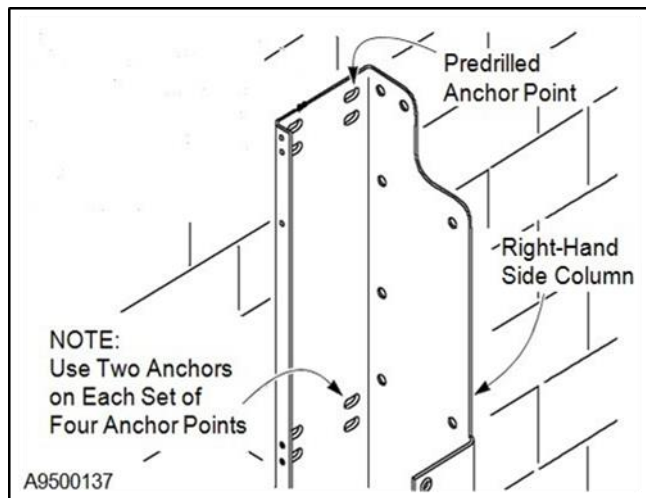
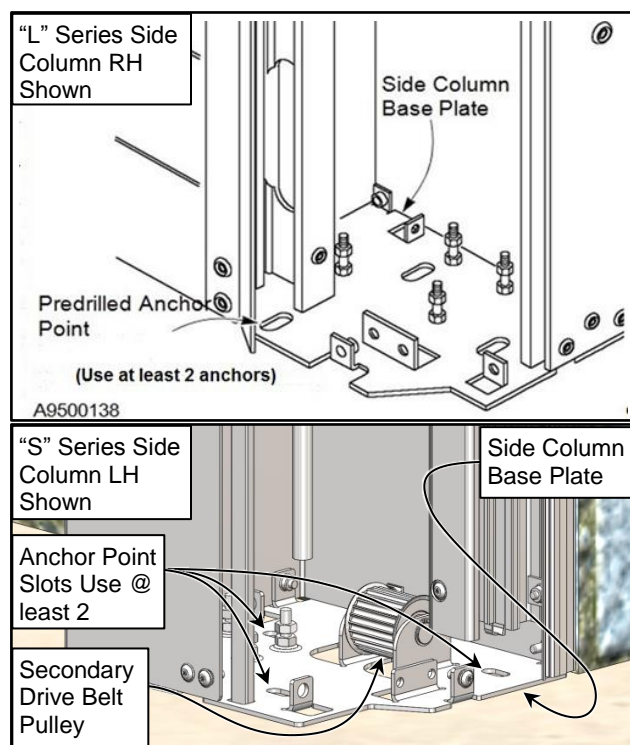

Figure 23
Figure 24
4. Inspect all nuts, through bolts, threaded rods, and anchors used to secure the side columns to the wall and floor. Tighten any loose hardware. Replace any missing or damaged hardware as required. (See Figure 23 & Figure 24)
5. Inspect the hardware used to attach the vertical track sections to the left and right side columns. Tighten the hardware as required. Replace any missing or damaged hardware. (See Figure 23)